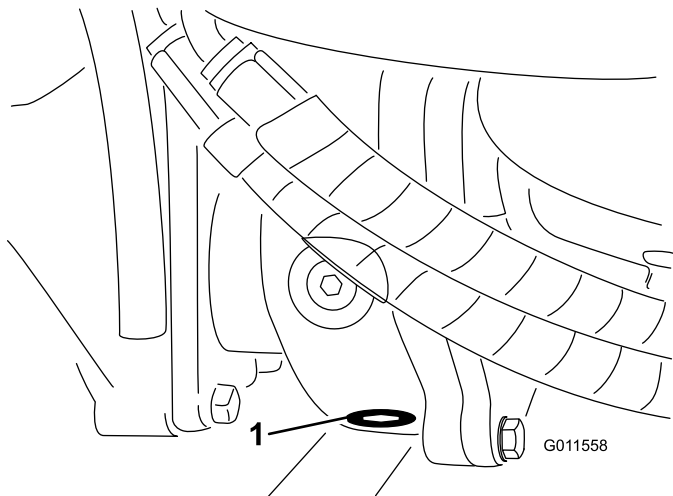

**Figure 65**
2. Clean the area around the 3 drain plugs; 1 on each end and 1 in the center (Figure 65).